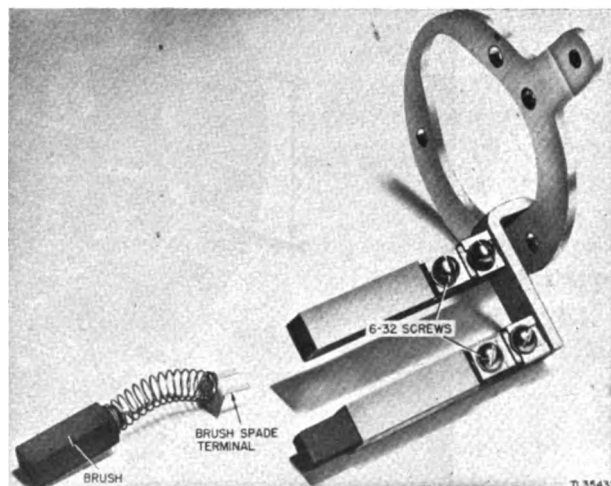

Figure 172. Brushes of rotary spark gap.
(4) Remove the 10-32 screw holding the braid ground lead to the pot head on the left side of the spark-gap assembly.
(5) Remove the three 10-32 screws holding the air duct to the spark-gap housing. Remove the air duct.
(6) Remove the brush-holder bracket through the air intake opening. Slide the bracket vertically downward as far as it will go and withdraw straight to the left. Figure 172 shows a picture of brushes and holder bracket.
(7) Remove the 6-32 screws that hold the brush spade terminal.
(8) Withdraw the brush assembly from the brush guide.
(9) Replace brushes if they are worn down so that they extend less than  $\frac{1}{8}$  inch beyond the brush holder. Insert a new brush assembly with the spade lug in the proper position and replace the 6-32 screws.
(10) Make sure that the brush does not bind in the brush guide. The brush spring should return the brush to the fully extended position without delay when the brush is pushed into the